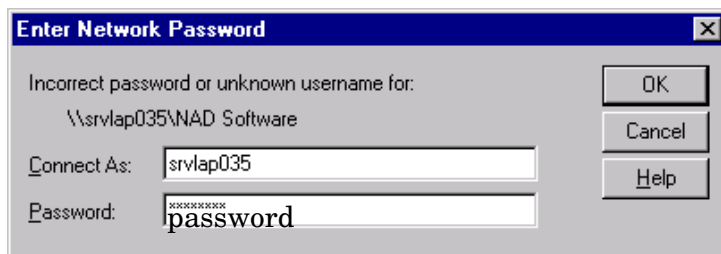

FIGURE 1-11. Example 'NT Laptop Network Password' Dialog
- 1.31 If not using a Windows NT laptop, skip to next step, or at the 'Enter Network Password' dialog, remove the text from the 'Connect As:' field and type in your computer name, i.e., 'srvlap035'. In the 'Password' field, enter 'password' as the password. Click OK. See FIGURE 1-11.